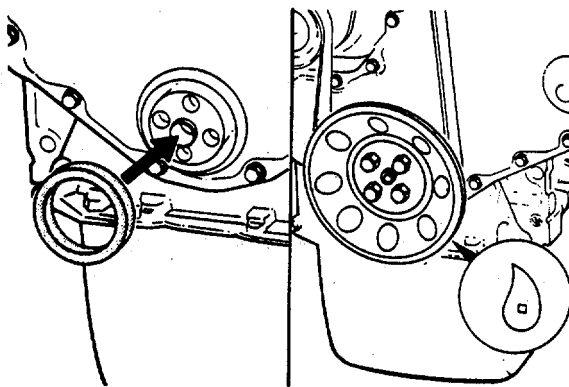

FIGURE 3-55. Check for Leaks.
- o. Operate the engine to check for leaks. (FIGURE 3-55)